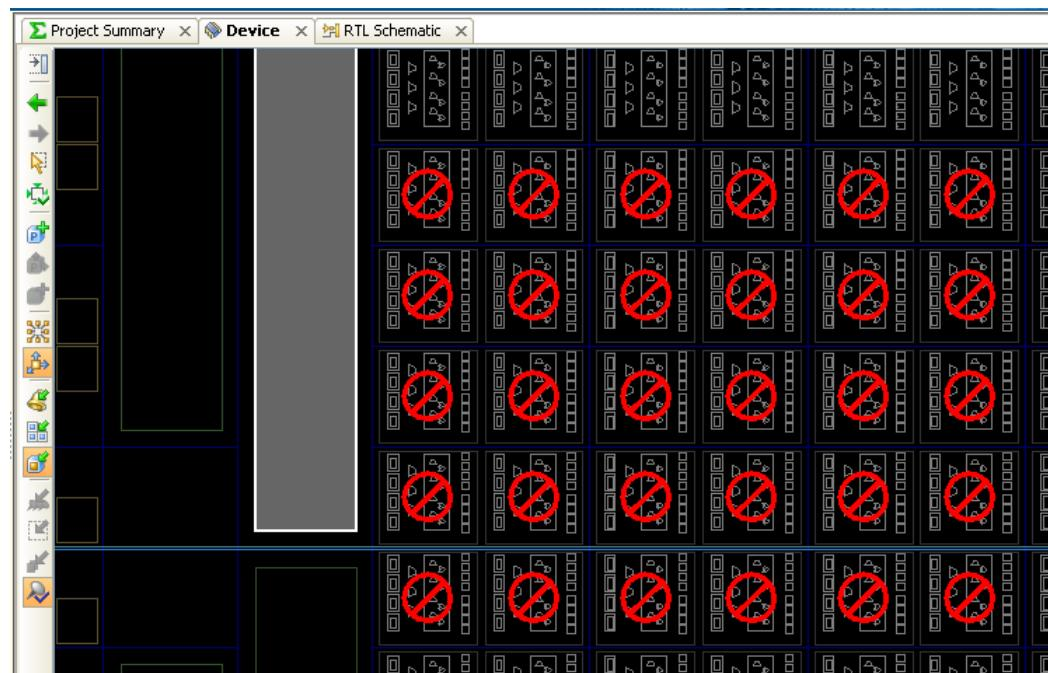

Figure 10-30: Prohibited Sites in the Device View
3. Select the **Set Prohibit** command from the right-click pop-up menu. The prohibited sites display a red warning, as shown in Figure 10-30.